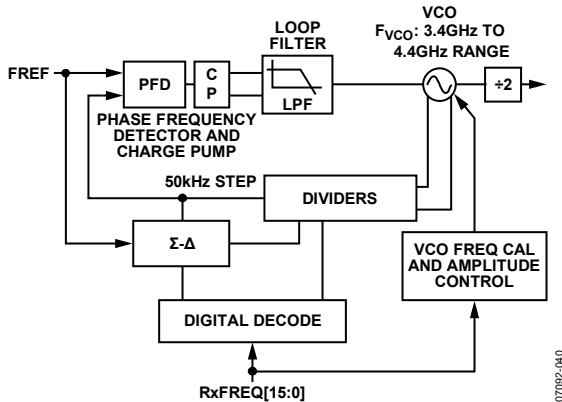

Figure 48. Frequency Synthesizer Block Diagram
The ADF4602 contains two fully integrated programmable frequency synthesizers for generation of transmit and receive local oscillator (LO) signals. The design uses a fractional-N architecture for low noise and fast lock-time. The fractional-N functionality is implemented with a third order  $\Sigma$ - $\Delta$  modulator. Figure 48 shows a block diagram of the synthesizer architecture.